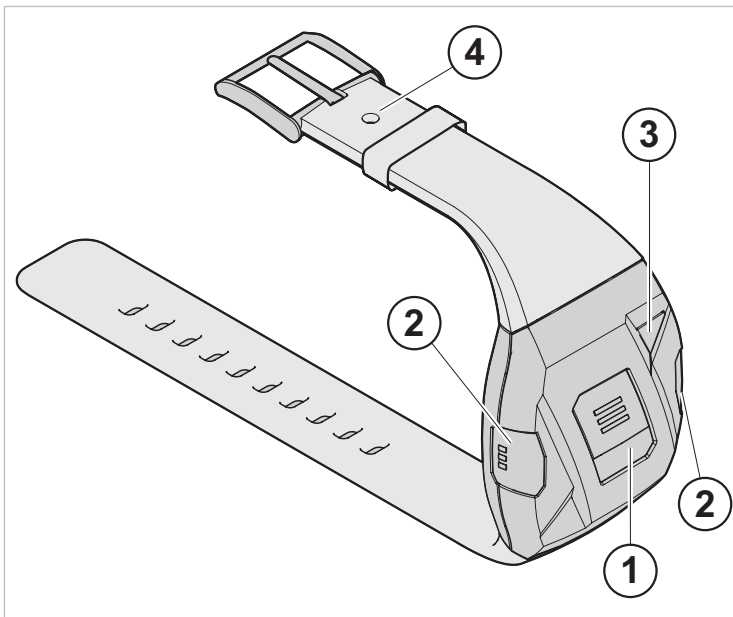

Fig. 1 Resident badge
- ▶ Press the resident call button (1, Fig. 1) for 10 sec. until the reassurance light (LED) lights up.
- ▶ Press the button for resident call in the badge centre (1, Fig. 1).
- ▶ Press one of the two service call buttons on the sides of the badge (2, Fig. 1).